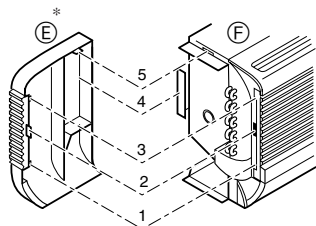

Fig. 3-9
* Structure of the side panel and the unit body (Fig. 3-9)